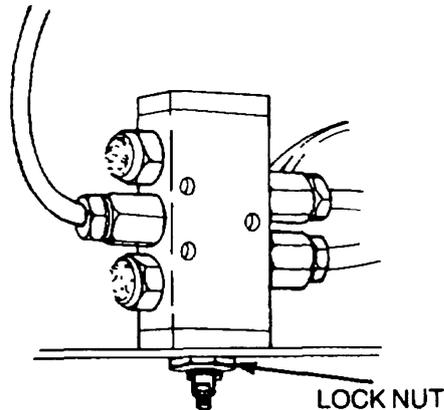

Figure 198 Differential Lock Control Switch Removal
- g.** Tag and disconnect the three vacuum pipes connected to the differential lock control switch (Figure 198).